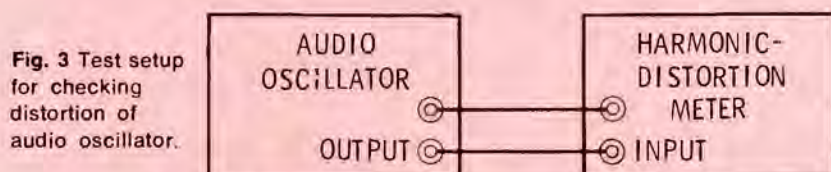

Fig. 3 Test setup for checking distortion of audio oscillator.
2. An audio oscillator may be checked for distortion as shown in Fig. 3. As in most electronic units, tubes are the most common troublemakers, followed by defective capacitors. Remember that the HD meter itself can become defective and require servicing.